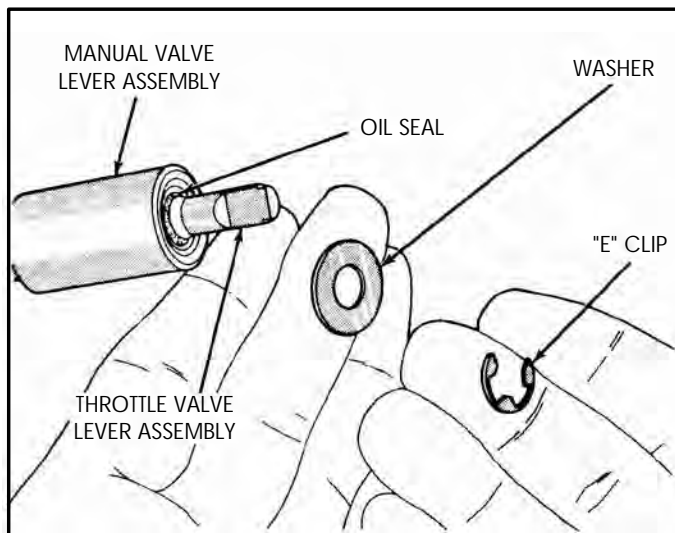

Figure 109
21. Install **new** throttle shaft oil seal, as shown in Figure 109.
22. Install flat washer and "E" clip, as shown in Figures 109 and 110.